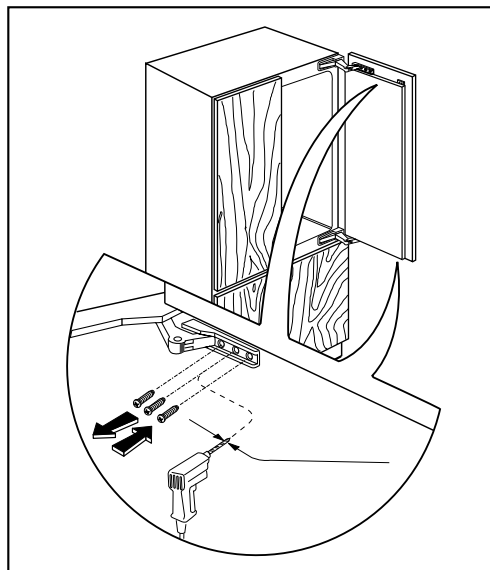

Fig. 11
- Re-open the door and drill with a **2.5 mm** bit in the centre of the horizontal slots in the hinge. Fix with the screws and remove those from the vertical slot (Fig. 11).